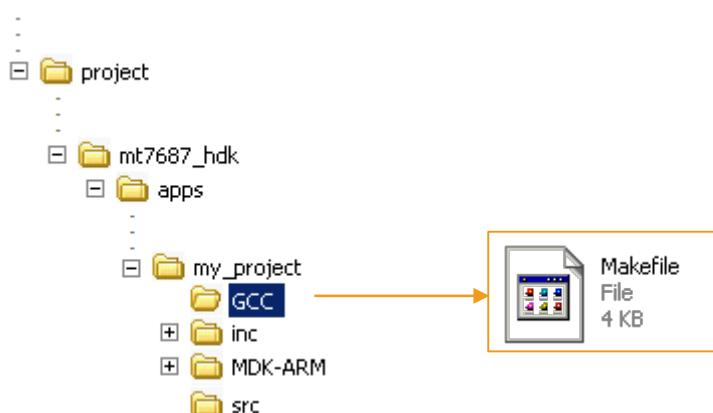

Figure 43. Modify the Makefile under the GCC folder of my_project
- 2) Modify the following settings defined in the <sdk_root>\project\mt7687_hdk\apps\my_project\GCC\Makefile under the GCC folder (see Figure 43) my_project, as shown below: